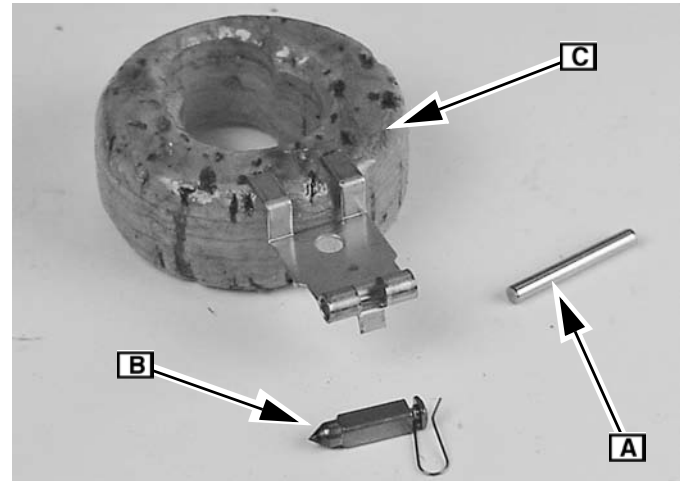

Fig. 44
8. Remove the float hinge pin **A**, the inlet valve needle assembly (with its clip) **B**, and the float **C** (Figure 44). Discard the needle and clip.